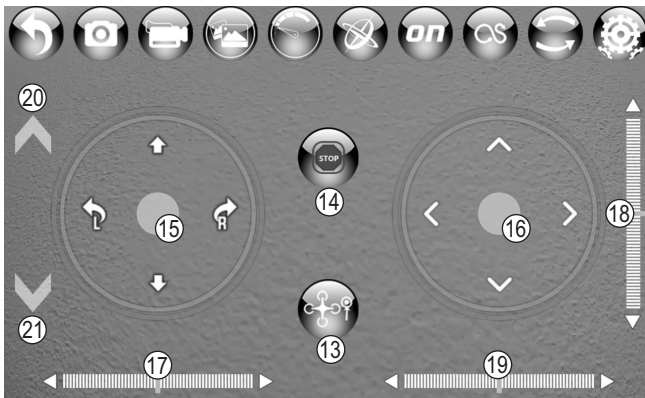

Figure 27
After you select this icon, the "Start rotors/automatic landing" (figure 27, position 13) button and "Emergency rotor stop" (figure 27, position 14) buttons will be displayed. Touch the "Emergency rotor stop" icon to immediately switch off the rotors, e.g. if the rotors are blocked due to an unsuccessful landing.
The left-hand control icon (figure 27, position 15) controls the altitude and rotation about the vertical axis (yaw). The right-hand control icon (figure 27, position 16) controls the pitch and roll.
The "yaw" trim icon is shown in figure 27, position 17. Position 18 is the trim icon for "pitch", and position 19 is the trim icon for "roll". If necessary, touch the left or right-hand arrow to trim the "yaw" and roll" and the up or down arrow to trim the "pitch" until the quadcopter responds as desired. Refer to sections 13 and 14 for more information on how to trim the quadcopter.
- Move the left-hand control icon (figure 27, position 15) forwards slightly. The quadcopter will take off and hover approximately 1.5 above the ground.
- The two control icons (see figure 27, positions 15 and 16) function like the control levers on the remote control. Keep your smartphone in your hands. Touch each "point" with your finger (for best results, use your thumb) and control the quadcopter in the same way as you would with the remote control (see section 11 and 12).
- To land the quadcopter, move the left-hand control icon (figure 27, position 15) backwards slightly. Alternatively, initiate an automatic landing by selecting the icon in figure 27 (position 13). To switch off the rotors in the event of an unsuccessful landing, select the icon in figure 27 (position 14). This switches the rotors off immediately.
- To move the camera upwards, touch the icon in figure 27 (position 20). To move the camera downwards, use the icon in figure 27 (position 21).
Keep your smartphone horizontally in your hands. Watch the right-hand control icon (right-hand "point", see figure 27, position 16), which moves according to the orientation of your smartphone. Touch the "Start rotors/automatic landing" icon (figure 27, position 13) to start the quadcopter, and then touch the left-hand control icon (figure 27, position 15) to initiate the take-off. The quadcopter will take off and hover in front of you.
Use the left-hand control icon (figure 27, position 15) to control the altitude and rotation about the vertical axis. The smartphone's position sensors are used to control the left/right and forwards/backwards movement (instead of the right-hand control icon).